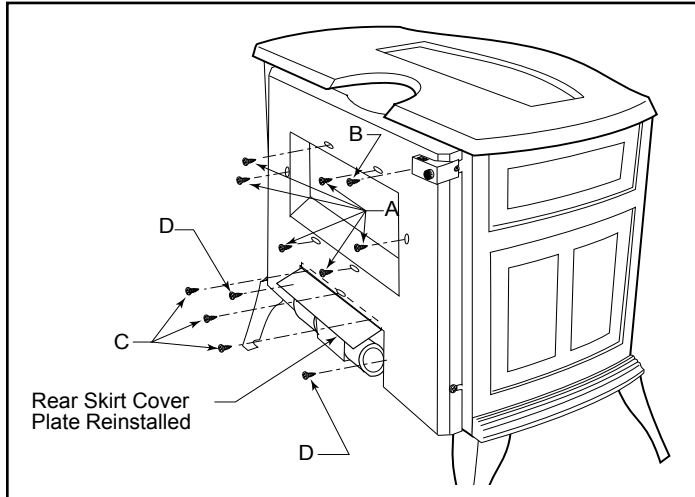

Figure 17 - Replace rear skirt, coverplate and switch box.
6. Bring the rheostat cord to the inside of the stove; pass the cord through the slot at the edge of the rear skirt, where the on/off switch passes through. Lift the rear skirt into rough position; make sure the fan and on/off switch wires are not trapped between the skirt and inner draft hood assembly. The on/off switch and fan rheostat should hang loosely outside the edge of the skirt. The edges of the rear skirt go outside the rear vertical edges of the stove sides. There is a rope gasket around the large opening in the rear skirt, make sure this stays in place. Install the six (6) sheet metal screws around the perimeter of the large opening in the rear skirt. ('A', Figure 17)
9. Replace the rear skirt cover plate with three (3) sheet metal screws as shown at "C", Figure 16. The top edge of the cover plate goes inside the rear skirt. Replace a sheet metal screw at each side of the fan assembly, holding the rear skirt to the inner fan shield. ('D', Figure 17)